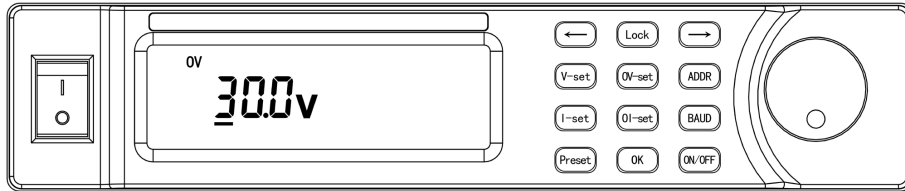
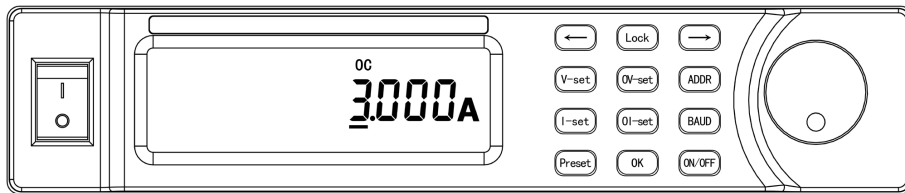

Fig.5-9
Fig.5-10
1. Press OV-set or OI-set key to enter OVP or OCP limit setup mode (refer to Fig.5-9 and Fig.5-10).